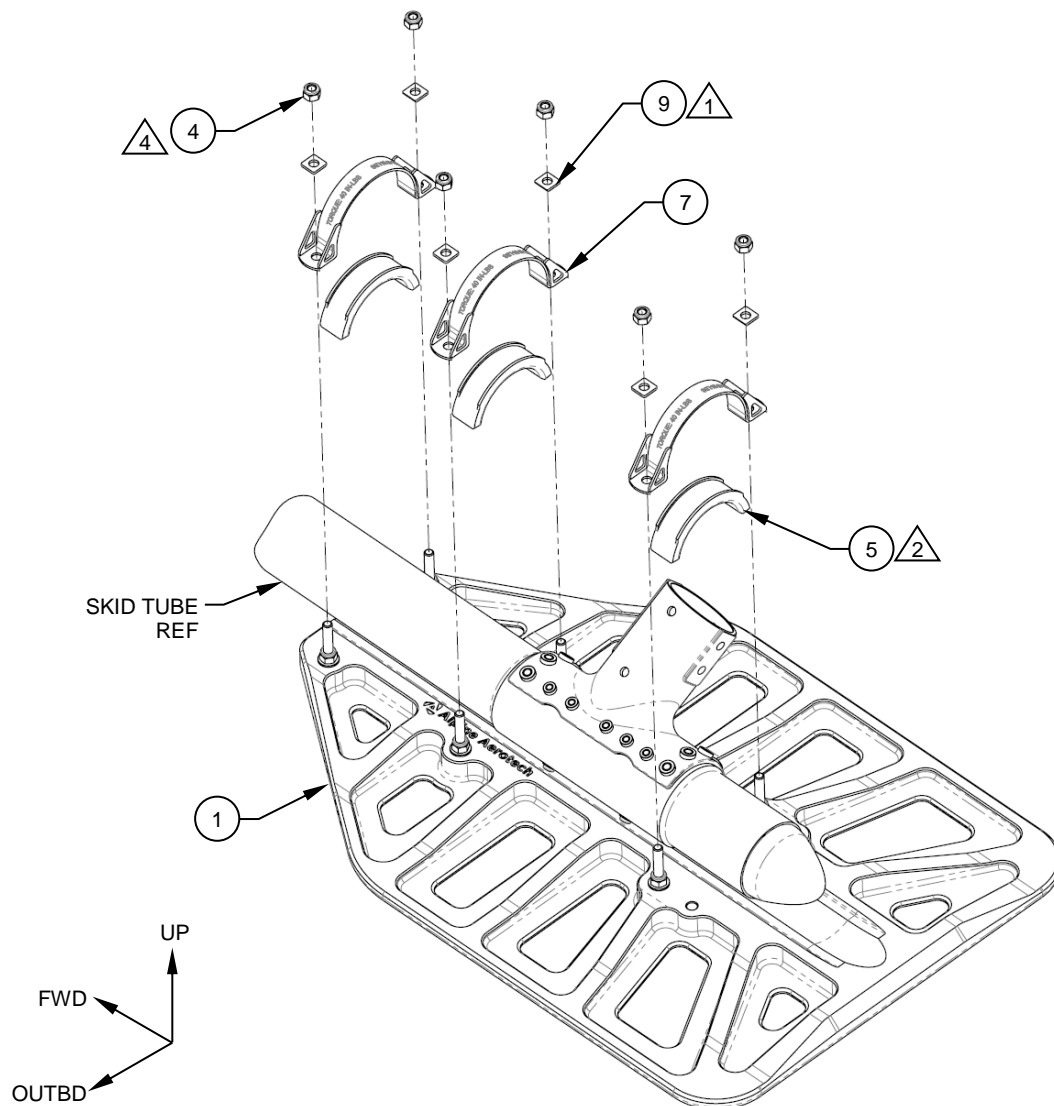

Figure 3
2. Place Cap, Details (Item 5) into Strap, Assys (Item 7) center the cap to the strap. Reference Figures 3 & 4.
4. Once the Bear Paw, Detail (Item 1) is under the skid tube in its approximate location, place the Strap, Assy's (Item 7) Cap, Details (Item 5) and associated hardware (Items 4 & 9) on their corresponding studs and capture the stud with its respective self-locking nut (Item 4) and washer (Item 9). Reference Figures 3 & 4.
5. Lower the aircraft onto the Bear Paw, Detail (Item 1) and torque fasteners equally to 40 in-lbs. (plus tare torque). Ensure that the relieved edge of the Washer, Radius (Item 9) is oriented towards the skid tube. Reference Figures 3 & 4.